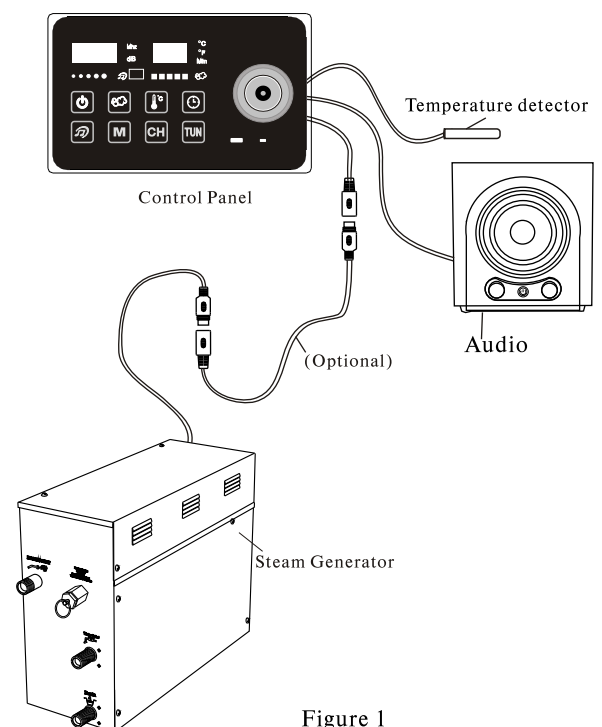

Figure 1
2. As shown in Fig.1, drill a small hole of  $\Phi$  10mm in the selected position.